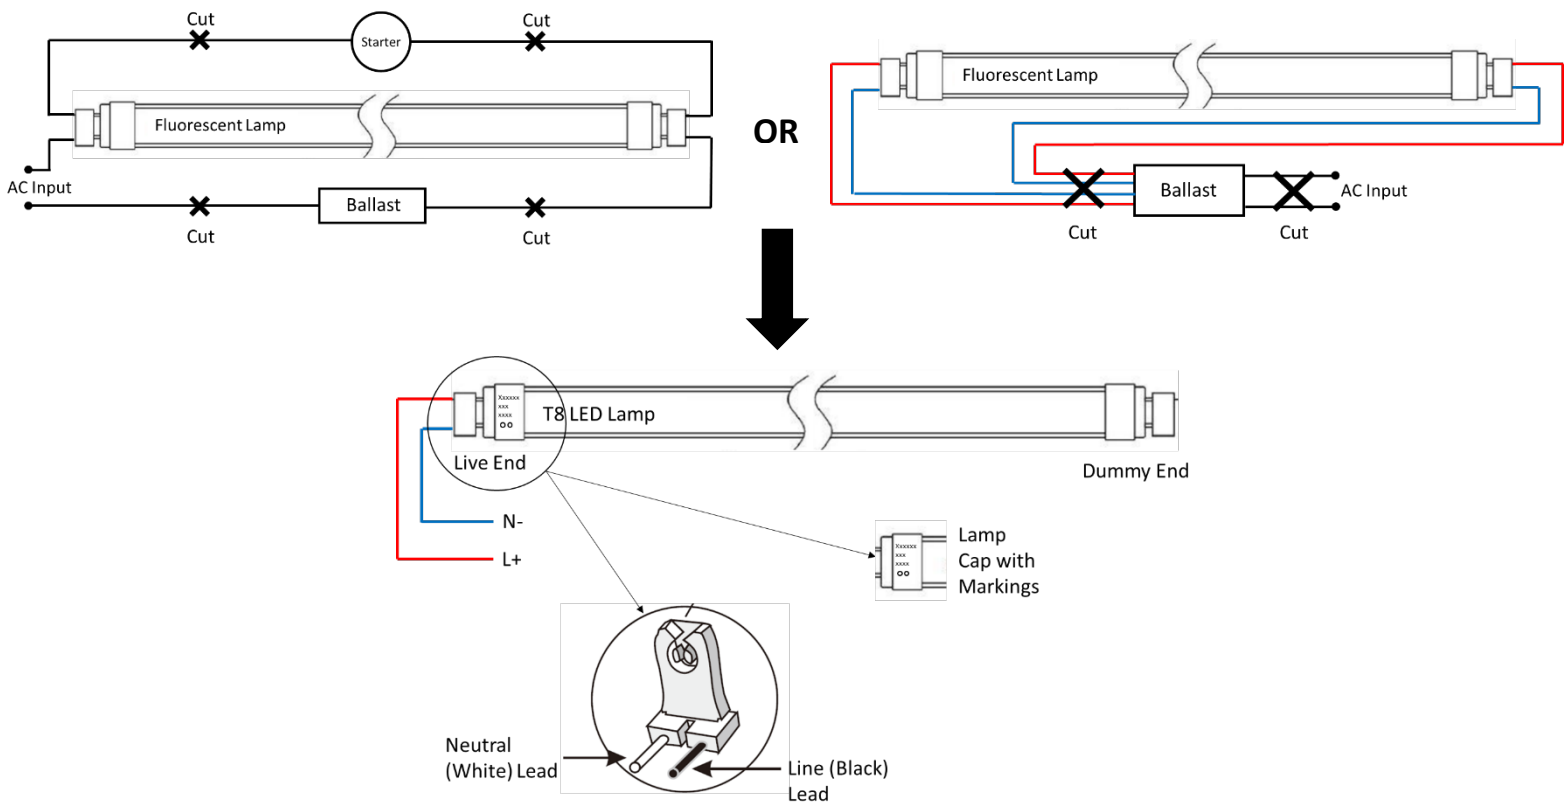

FIGURE 1
- 5) Connect the positive lead (Line) to one of the two wires connected to the lamp pin base and connect the negative lead (Neutral) to the second of the two wires connected to the same lamp pin base (See Figure 1) of the LIVE END. All connections are made by wire nuts.
- 6) Install the T8 LED Lamp in fixture matching the end cap with markings to the “LIVE END” side of the fixture (Figure 1). The end cap with no markings is not wired and should not be inserted in the LIVE END side socket. Turn the tube 90° to ensure that the tube is locked inside the lamp socket.